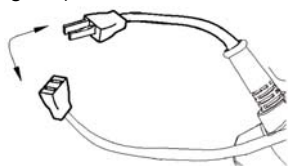

Fig. 13
5. Insert the plug of the leaf blower into the outlet on the extension cord. (Fig. 13)